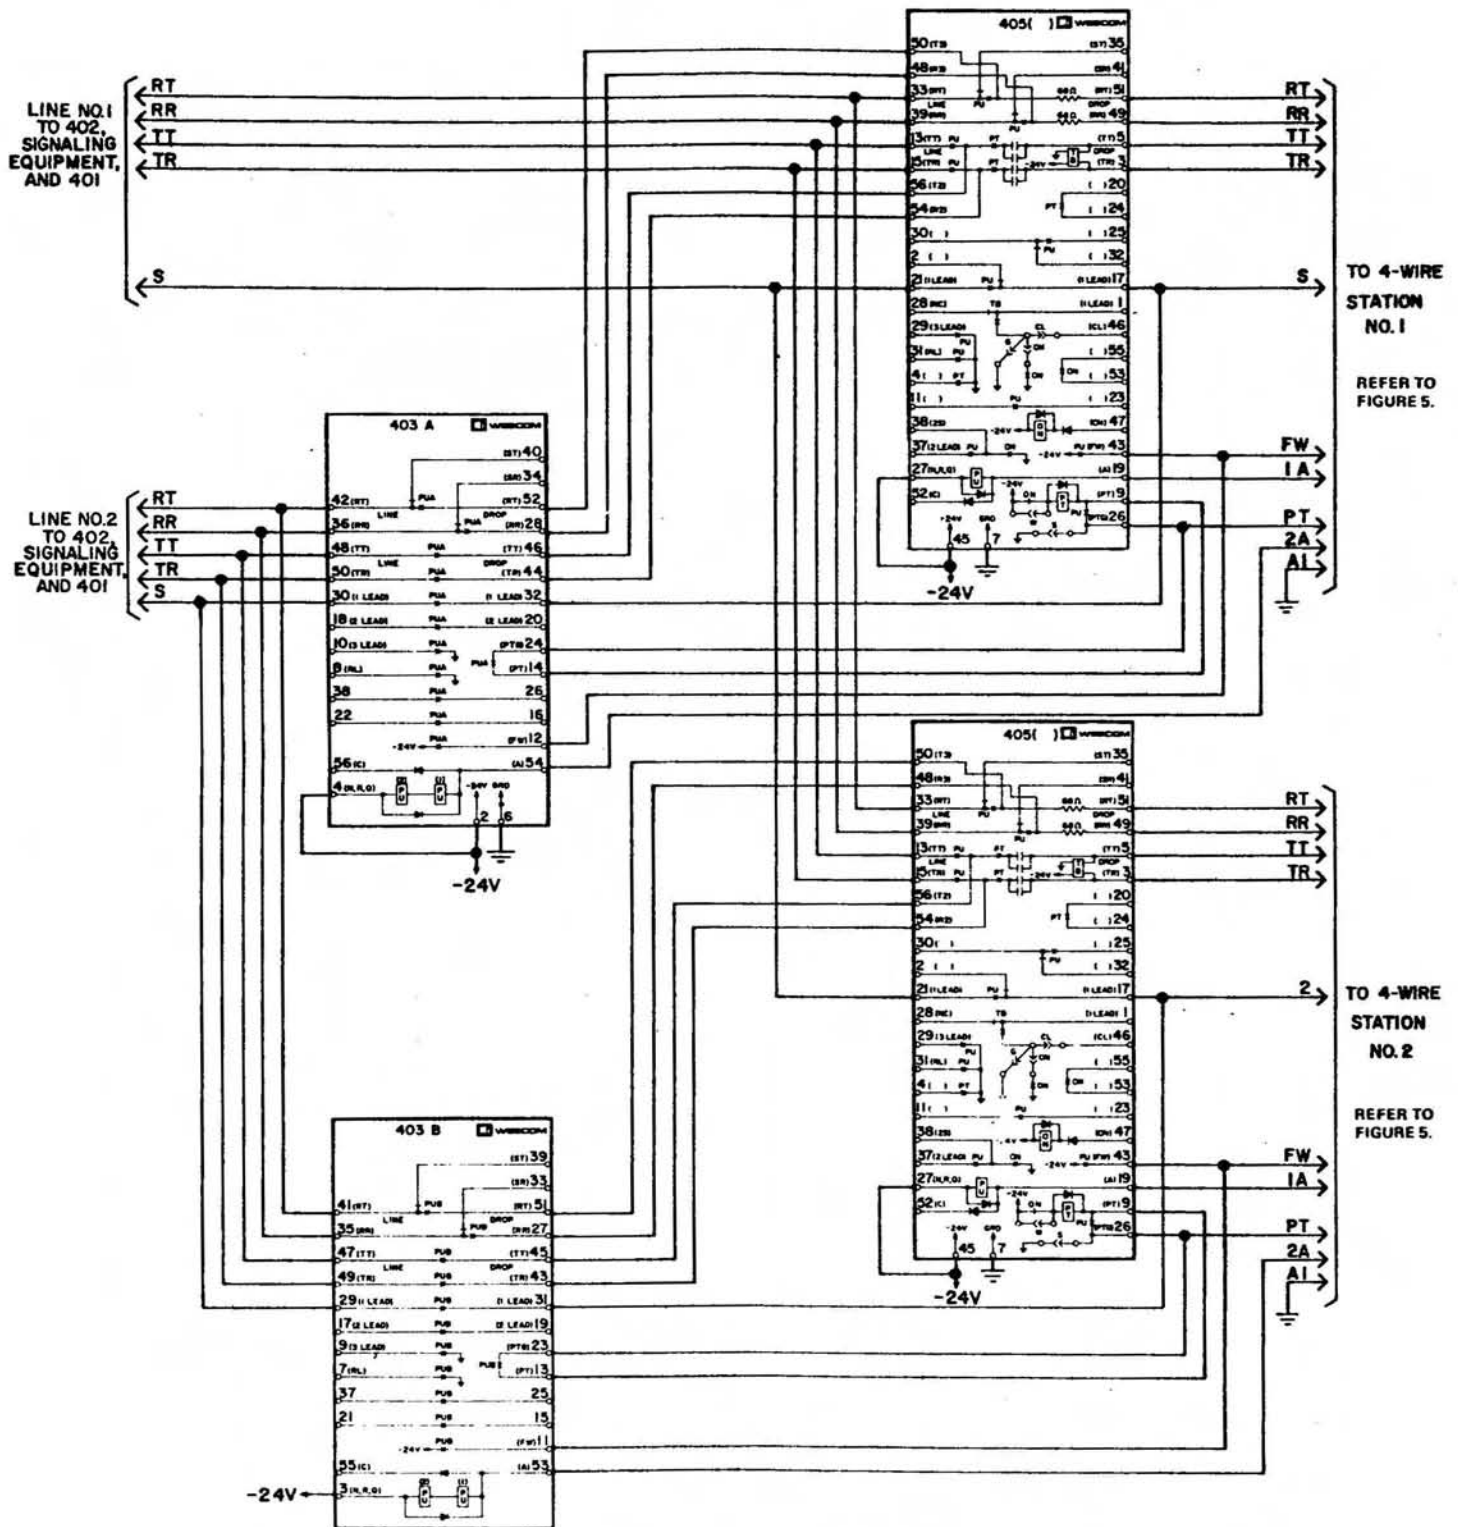

Figure 3. Two Station Access to Two Lines Using Two 405's and One 403
2.03 In Figure 3, two sets are shown connected to two 405's and one 403. This allows each of the handsets access to two circuits. The transmission circuitry (402, signaling equipment, and 401) is again not shown.